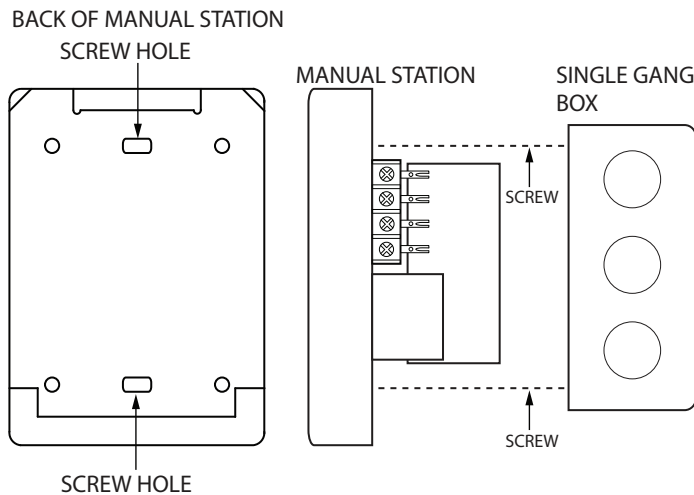

Figure 3: Mounting the manual station
2. Mount the station to a surface mounted box with 2 of the included screws. Refer to Figure 3.